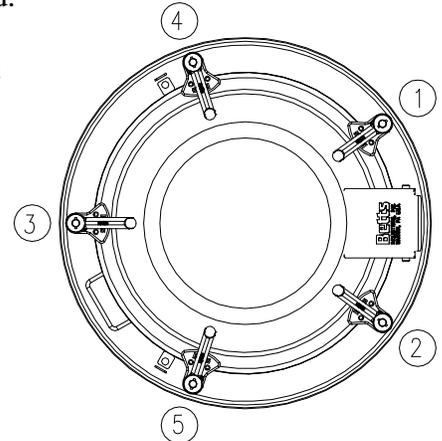

Figure 2
- 3. Closing Instructions:** The covers should never be slammed or forced shut. Gently lower the inner head into position followed by the dust cover. If either cover binds, gently wiggle the cover from side to side until the hinge allows the cover to close freely. Rotate the hold-down dogs into position and tighten the wingnuts following the closing sequence in figure 2. Start with #1 and snug all the wingnuts but do not completely tighten on the first go around. Repeat the sequence until all wingnuts are tightened enough to seal the manway. Hand tighten, do not use a hammer or extension pipe.
- Begin loosening the wingnuts in the same sequence as shown in figure 2. If air begins to escape from the manway back away from the manway until pressure is fully released.